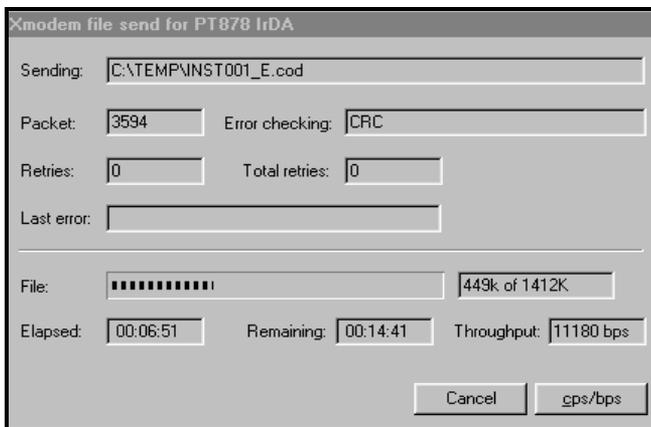

Figure 136: The File Transmission Window
8. Click *Send*. For a successful transfer, the PC window appears similar to Figure 136 on page 201, while the PT878 screen displays the program ID, size, load address and a count of blocks being loaded.